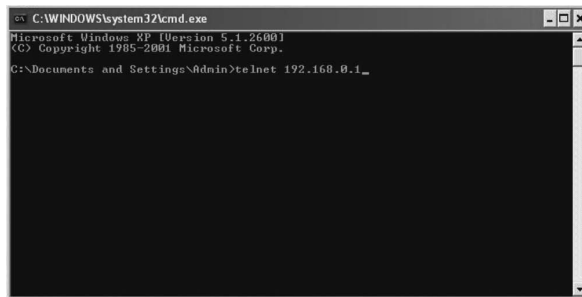

Figure 5-6 Connecting to the Switch
4. Type telnet 192.168.0.1 in the command prompt shown as Figure 5-6, and press the Enter button.